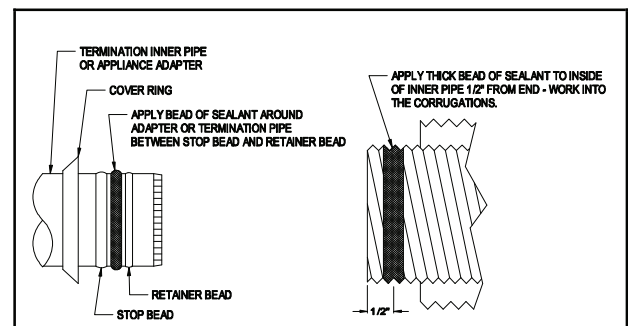

Figure 23
5. Remove all oil and grease from end of termination inner pipe or appliance adapter, and apply a bead of sealant to between the stop bead and retainer bead (Figure 23).
6. Apply a thick bead of sealant to inside of inner vent pipe  $\frac{1}{2}$ " from the end of pipe, working the sealant into the corrugations (Figure 23).